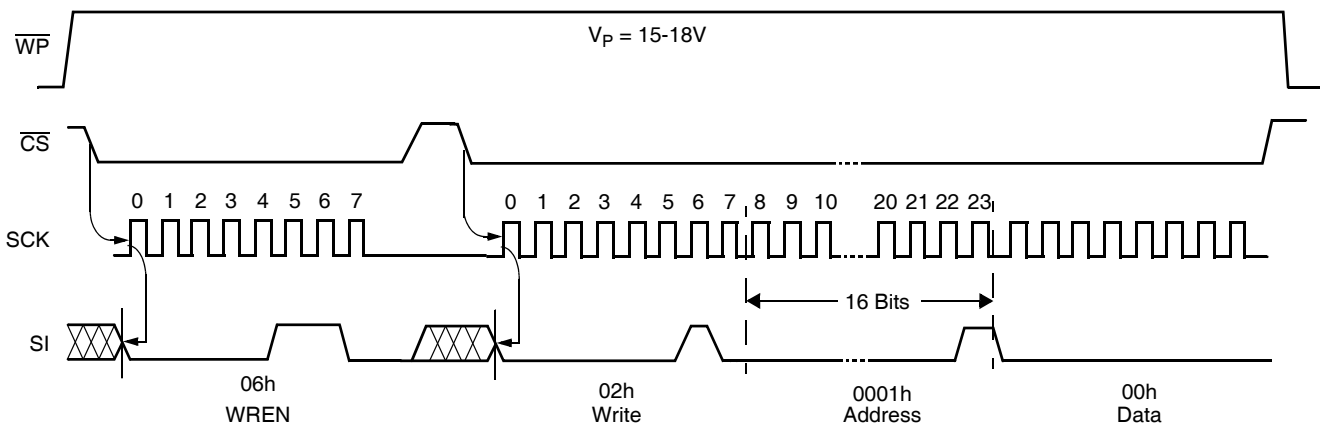

FIGURE 1. SET V_{TRIP} LEVEL SEQUENCE ($V_{CC} = \text{DESIRED } V_{TRIP} \text{ VALUE}$)
| 0000 0001 | <p>Write status instruction—followed by: Block lock/WDT byte: (See Figure 1) 000WD₁ WD₂000 --->no block lock: 00h-00h--->none of the array 000WD₁ WD₂001 --->block lock Q1: 0000h-00FFh--->lower quadrant (Q1) 000WD₁ WD₂010 --->block lock Q2: 0100h-01FFh--->Q2 000WD₁ WD₂011 --->block lock Q3: 0200h-02FFh--->Q3 000WD₁ WD₂100 --->block lock Q4: 0300h-03FFh--->upper quadrant (Q4) 000WD₁ WD₂101 --->block lock H1: 0000h-01FFh--->lower half of the array (H1) 000WD₁ WD₂110 --->block lock P0: 0000h-000Fh--->lower page (P0) 000WD₁ WD₂111 --->block lock Pn: 03F0h-03FFh--->upper page (PN)</p> |